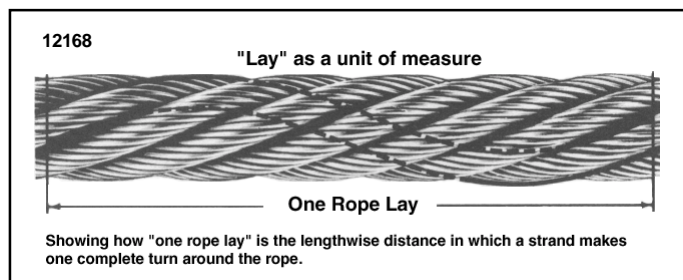

Figure 8-3. Description of One Rope Lay
(2) Broken outside wires exceeding twelve randomly distributed wires in one rope lay, or four broken wires in one strand in one rope lay. (See Figure 8-3.)